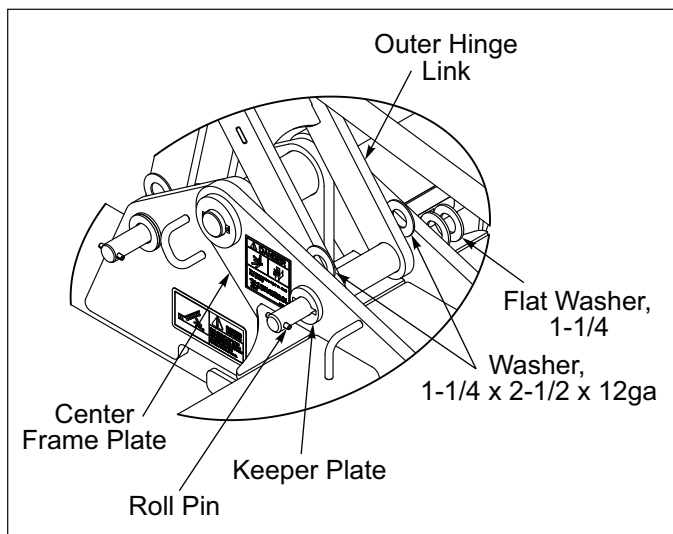
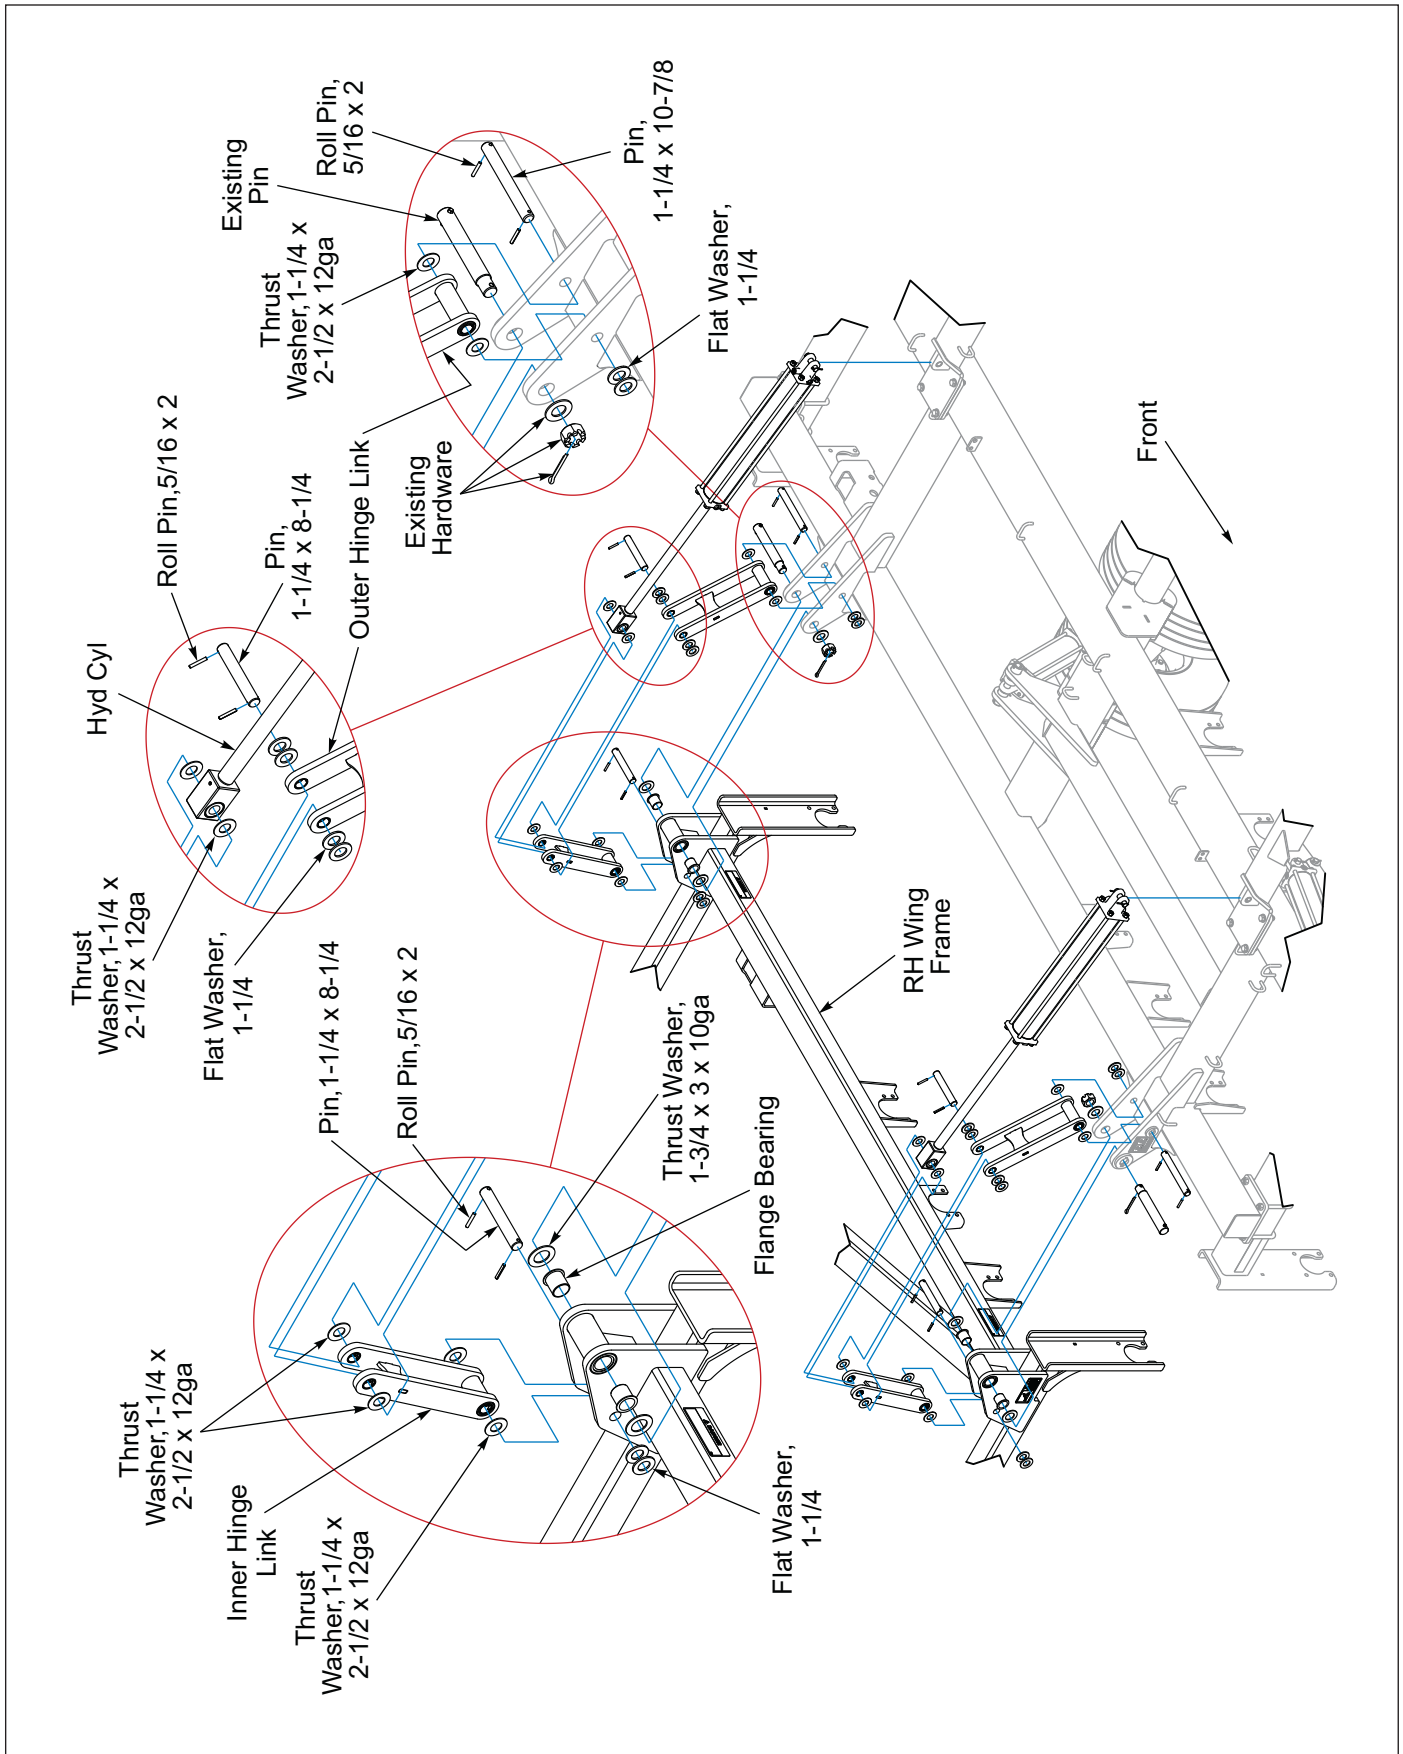

Figure 2-43: Keeper Plate
Figure 2-46: Wing Hinge to Frame Installation
1. Insert two Flange Bearings into each Wing Frame Hinge. Remove existing Pin and Hardware from Center Frame Hinge Lug. Position the Wing Frame Hinges between the Center Frame Hinge Lugs and align the holes. Once positioned place one 1-3/4 x 3 x 10ga Thrust Washer between each Wing Frame Hinge and Center Frame Hinge Lug. Thrust Washer should be against the Flange Bearing. Secure by re-installing Pin and Hardware. **See Figure 2-46.**
3. Place the Outer Hinge Link End with the bushing between the Center Frame Hinge Plates. **See Figure 2-46.** Slide a 1-1/4 x 2-1/2 x 12ga Thrust Washer between the Outer Hinge Link and the Center Frame Hinge Plates. Insert 1-1/4 x 10-7/8 Pin into the side of the Center Frame Hinge Plate with the Keeper Plate so the Roll Pin fits into the slot. **See Figure 2-43.** Place two Flat Washers on the end of the Pin. Secure with 5/16 x 2 Roll Pin.
4. Place the Inner Hinge Link End with the bushing between the Wing Hinge Frame Plates. Slide a 1-1/4 x 2-1/2 x 12ga Thrust Washer between the Inner Hinge Link and the Wing Frame Hinge Plates. Insert 1-1/4 x 8-1/4 Pin into the side of the Wing Hinge Plate with the Keeper Plate so the Roll Pin fits into the slot. **See Figure 2-43.** Place two Flat Washers on the end of the Pin. Secure with 5/16 x 2 Roll Pin.